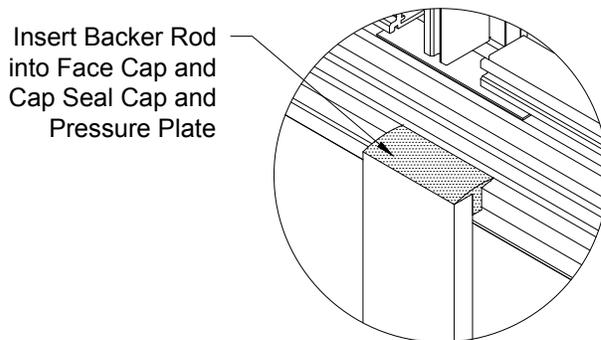
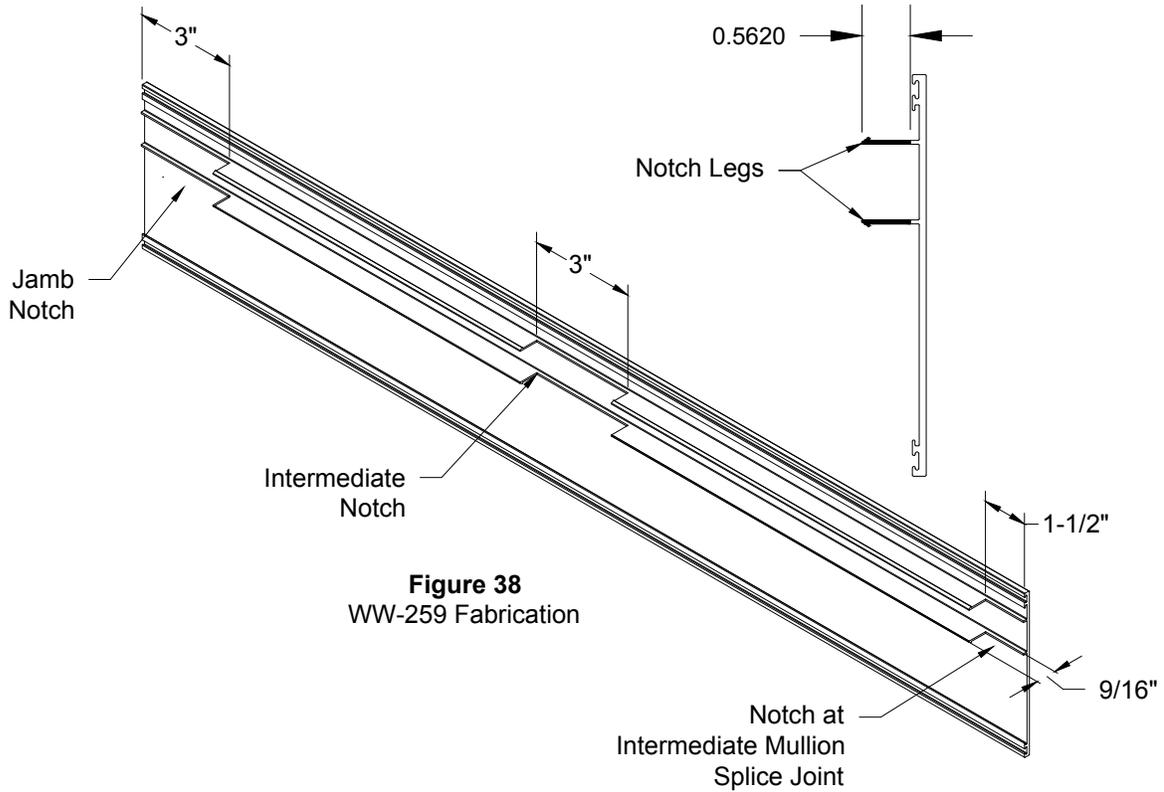
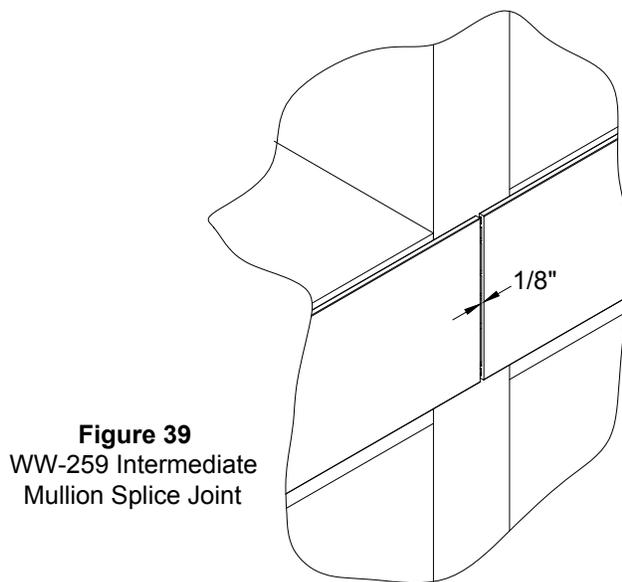
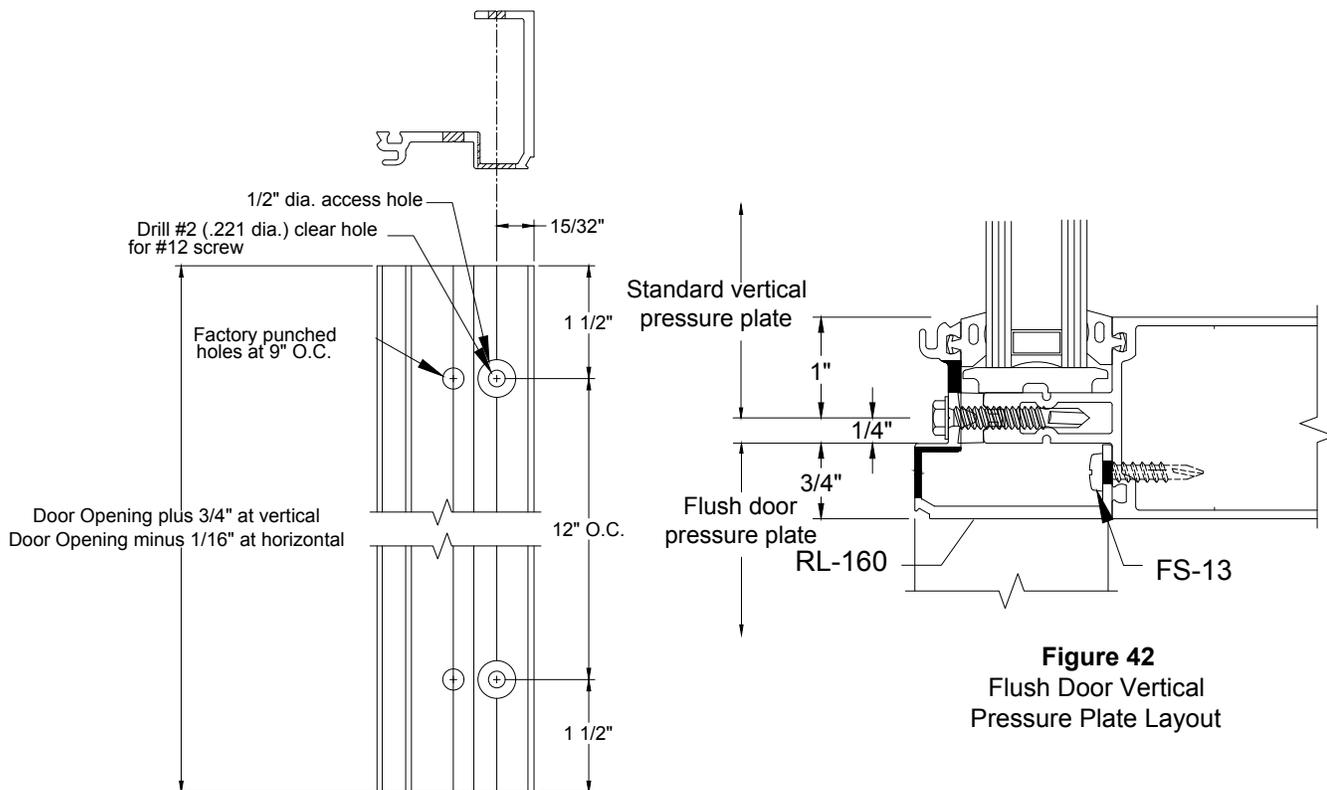

Figure 37
Figure 38
Figure 39
Figure 41
- 6.19 Once pressure plates and face caps are installed. Top side of face cap will have backer rod inserted into opening and sealant applied to seal pressure plate and cap. **See FIGURE 37.**
6.20 When using the optional WW-583 (WW-483) upper horizontal a WW-259 interior snap on cover will be required. The cover must be notched to clear jamb mullions and intermediate mullions. Ends of cover will be notched 3" at jambs to extend to edge of jamb. If cover is ran to cross vertical mullions then a 3" notch will also be fabricated at these locations. Where the cover needs to be spliced at intermediate mullions the notch will be 1-1/2" long and cover will be cut mullion centerline minus 1/16" to form a 1/8" joint. See **FIGURE 38** below for fabrication and **FIGURE 39** for butt joint.
- C.3.1 Drill 1/2" diameter access holes in flush door pressure plates 1 1/2" from ends and 12" O.C. **See FIGURE 41.**
- C.3.2 Attach TH-44 threshold clip to bottom of each vertical pressure plate with two (2) FS-256 #8 x 1 1/2" Phillips Round Head screws.
- C.3.3 Complete the glazing adjacent to the door frame, installing the flush door pressure plates per standard procedures previously outlined. Bed vertical pressure plates in sealant at sill and attach through access holes to mullion with FS-43 #12 x 3/4" Phillips Pan Head screw 1 1/2" from each end and 12" O.C. **See FIGURE 37 and FIGURE 39, page 40.**
- C.3.7 Install face covers onto pressure plates. **See FIGURE 41, page 41.**